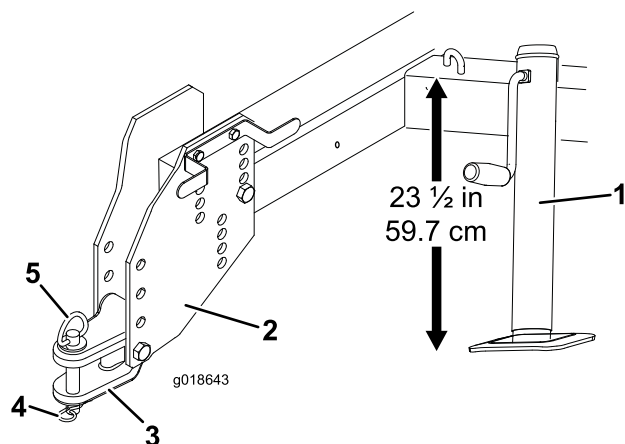

Figure 3
3. Adjust the jack so that the distance from the top of the frame to the ground is 59.7 cm (23-1/2 inches) (Figure 3).
- Remove the bolts and locknuts securing the hitch tongue to the hitch plates (Figure 3).
6. Secure the hitch tongue to the traction unit hitch with the hitch pin and lynch pin (Figure 3).